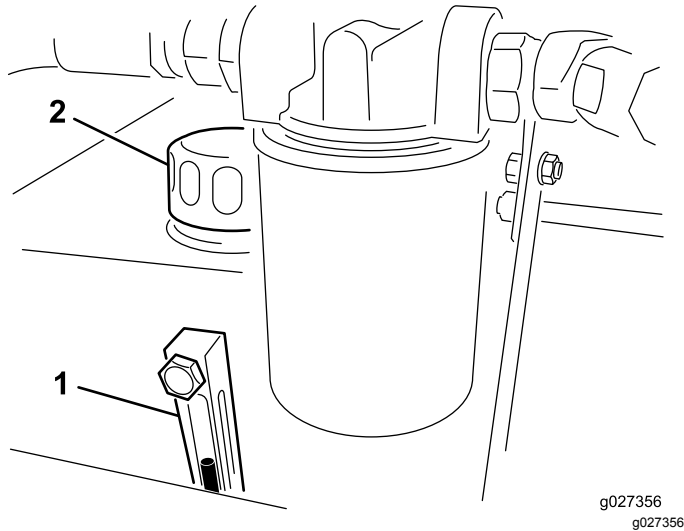

Figure 4
2. Check the level of the fluid by viewing the sight gauge (Figure 4). If the fluid is up to the middle of the gauge, the fluid level is sufficient.